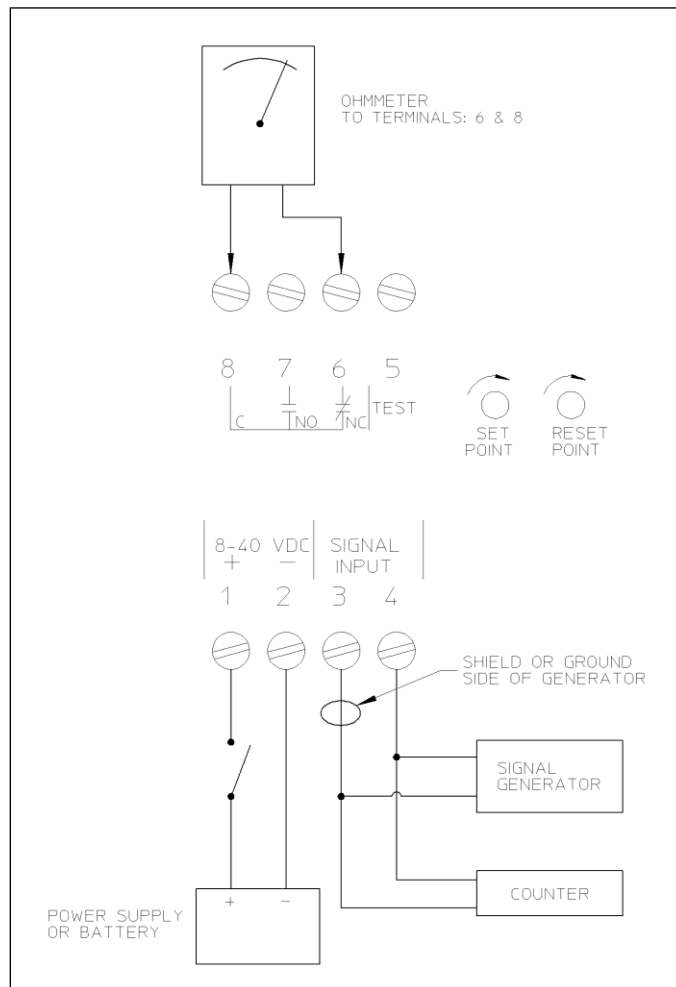

Figure 5. Setpoint Bench Adjustment
1. Connect signal generator, frequency counter and power to ESSE-1 as shown in **Figure 5**.